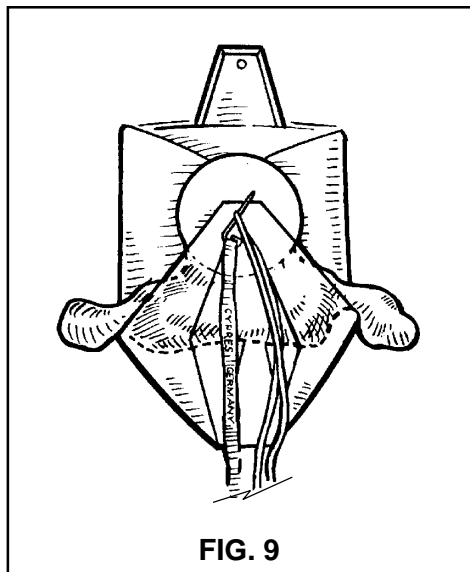

FIG. 9
12. Fan out the pilot chute fabric, so that it extends wider than the bottom flap. Be sure to keep the point of the fan narrow and tight to the middle of the bottom of the pilot chute top plate. Close the bottom flap and secure it with the temporary pin. (FIG. 9).